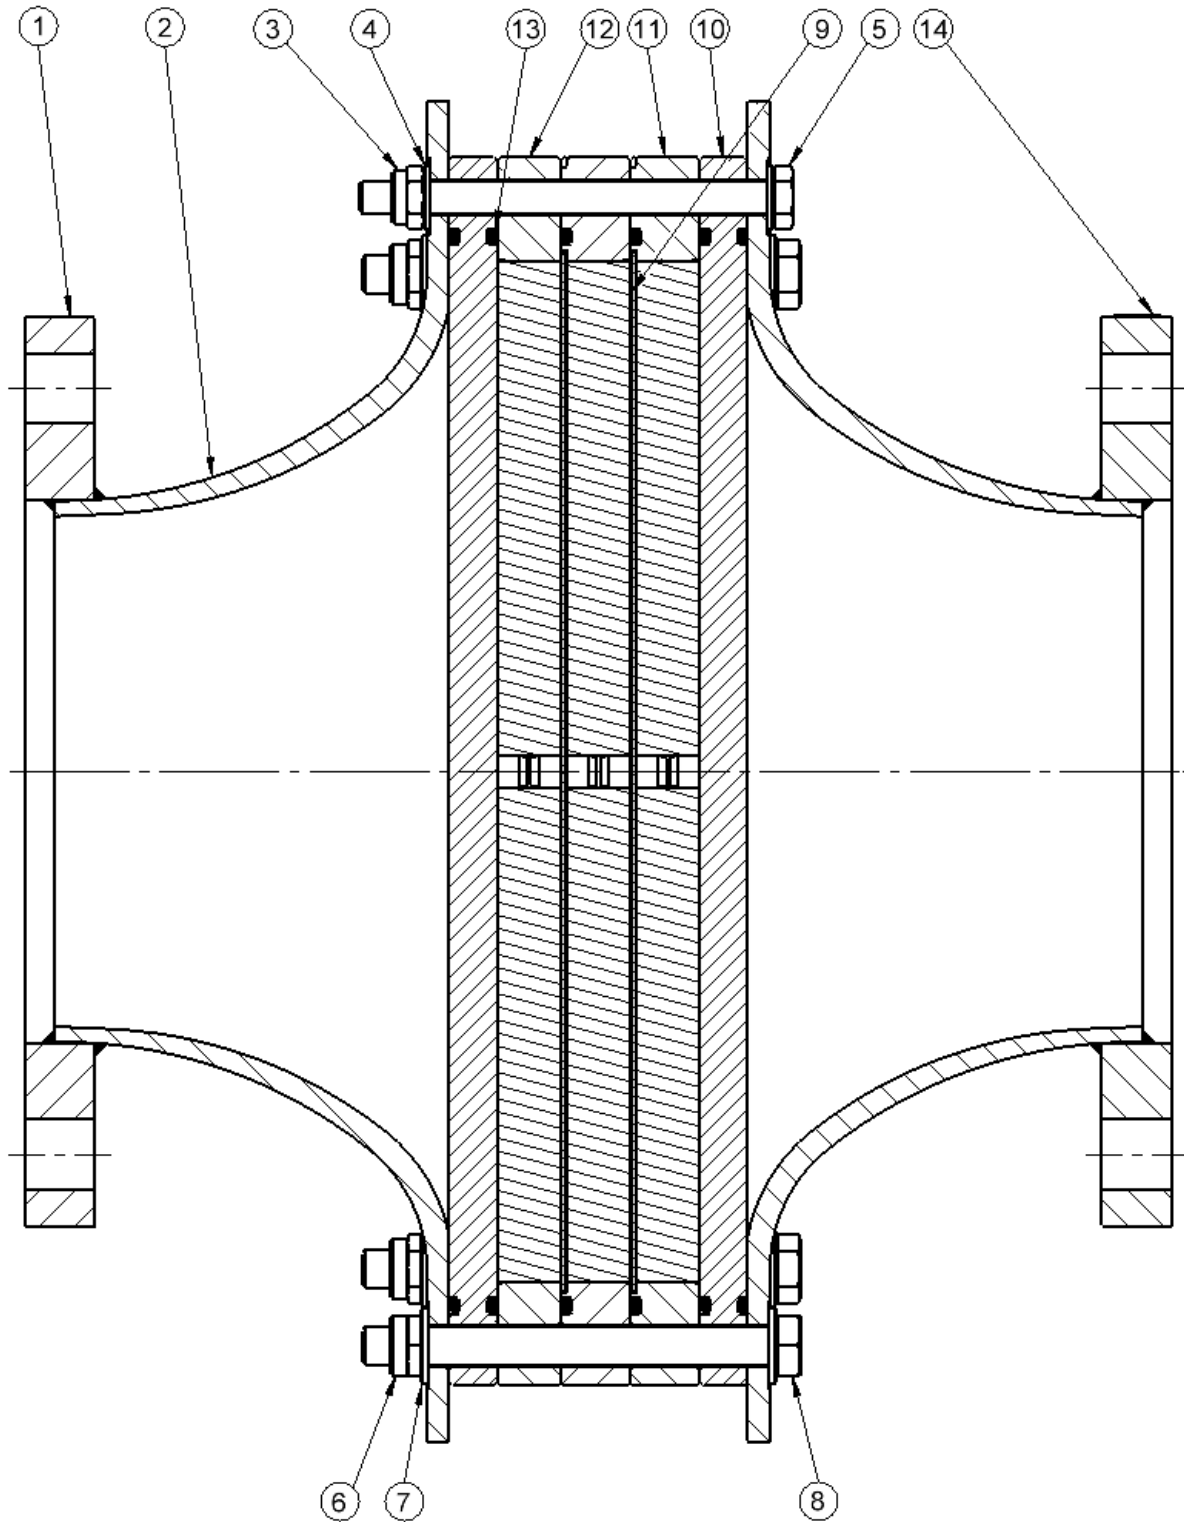

Figure 1
(also see Fig 1)
(See figure 1)
- Spare part no. (Please refer to **fig. 1** for items)